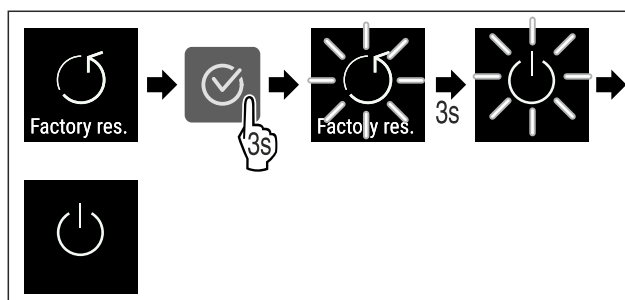

Fig. 112
- ▶ Complete the steps (see Fig. 112).